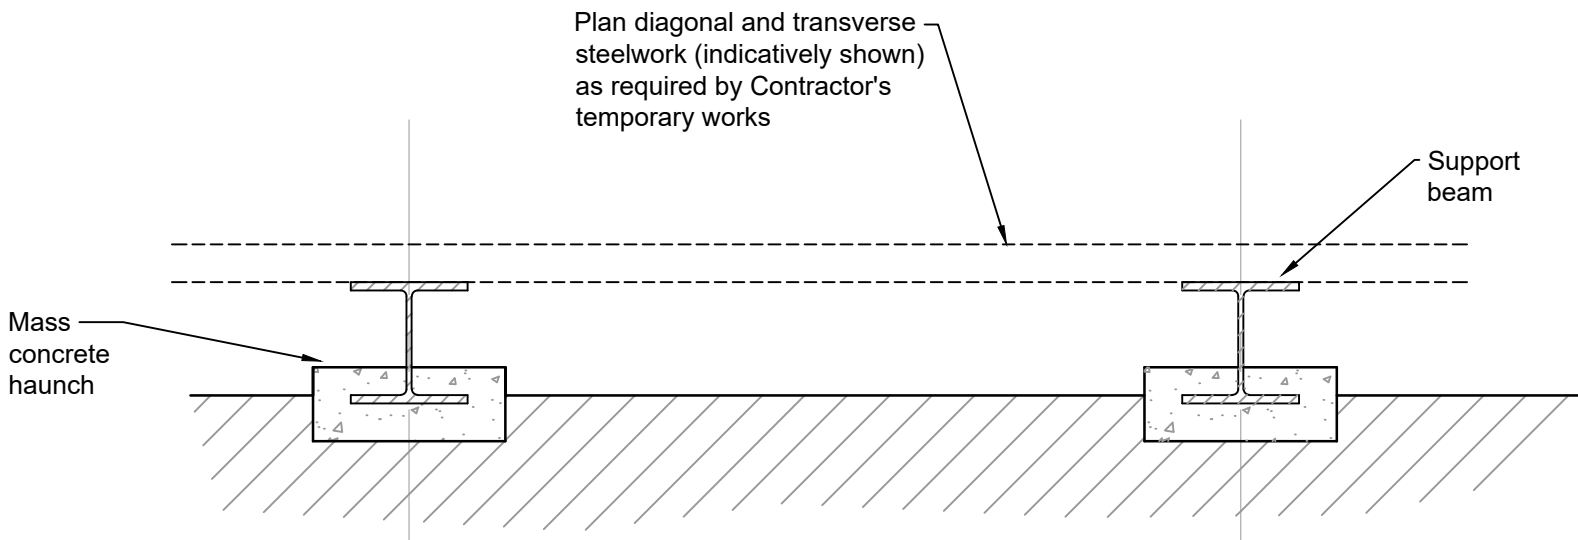

Figure 2
- Support beams haunched in concrete to secure them in position, temporary bracing may be required to ensure this. Refer Figure 2.